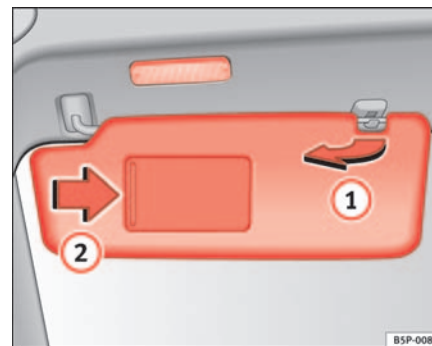

Fig. 85 Sun visor on the
The sun visors for the driver and the front passenger can be pulled out of their mountings in the centre of the vehicle and turned towards the doors ⇒ fig. 85 ①.